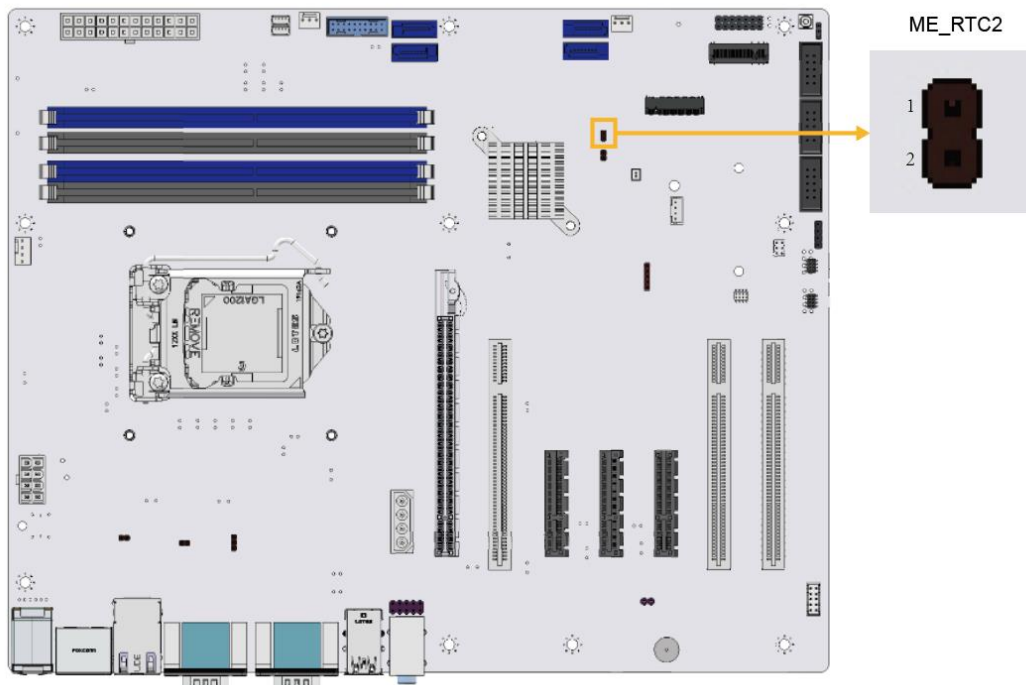

Figure 3-12: Clear CMOS Jumper Location
- CN Location:** See Figure 3-12